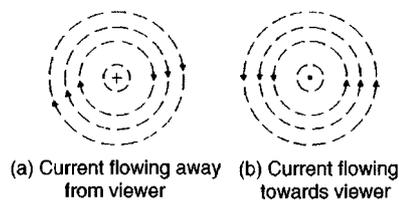
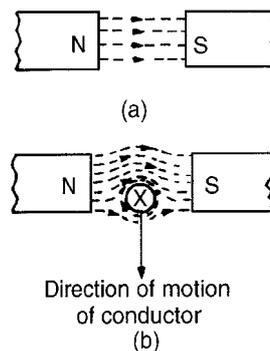

Figure 8.3
Figure 8.13
When dealing with magnetic fields formed by electric current it is usual to portray the effect as shown in Fig. 8.3. The convention adopted is:
- (i) Current flowing away from the viewer, i.e. into the paper, is indicated by \odot . This may be thought of as the feathered end of the shaft of an arrow. See Fig. 8.3(a).
- (ii) Current flowing towards the viewer, i.e. out of the paper, is indicated by \ominus . This may be thought of as the point of an arrow. See Fig. 8.3(b).
For example, with current flowing away from the viewer (Fig. 8.3(a)) a right-hand thread screw driven into the paper has to be rotated clockwise. Hence the direction of the magnetic field is clockwise.
If the current-carrying conductor shown in Fig. 8.3 (a) is placed in the magnetic field shown in Fig. 8.13(a), then the two fields interact and cause a force to be exerted on the conductor as shown in Fig. 8.13(b). The field is strengthened above the conductor and weakened below, thus tending to move the conductor downwards. This is the basic principle of operation of the electric motor (see Section 8.4) and the moving-coil instrument (see Section 8.5)